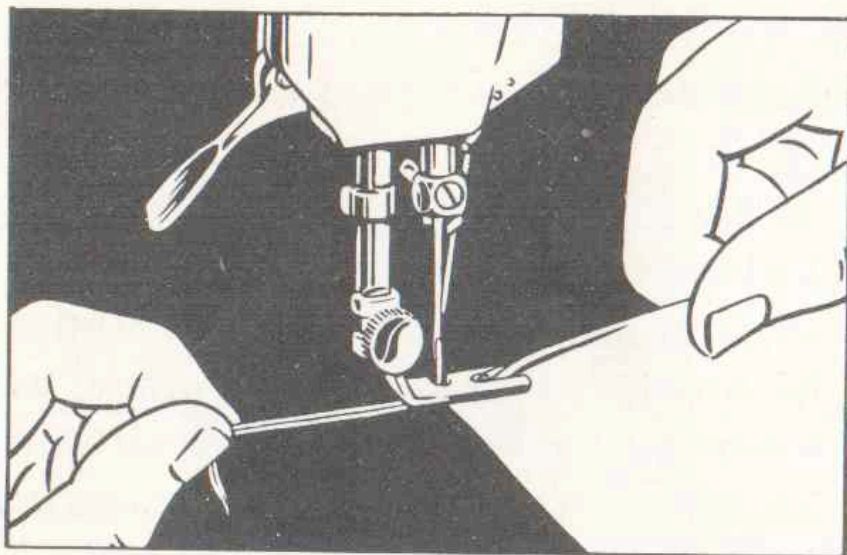

Fig. 45. Starting Hem at Very End of Material
3. Raise hemmer. Pull threads and hem slightly from you with left hand; then while holding threads, draw material toward you with right hand into scroll of hemmer until tacked end is caught in hemmer, as shown in Fig. 45.